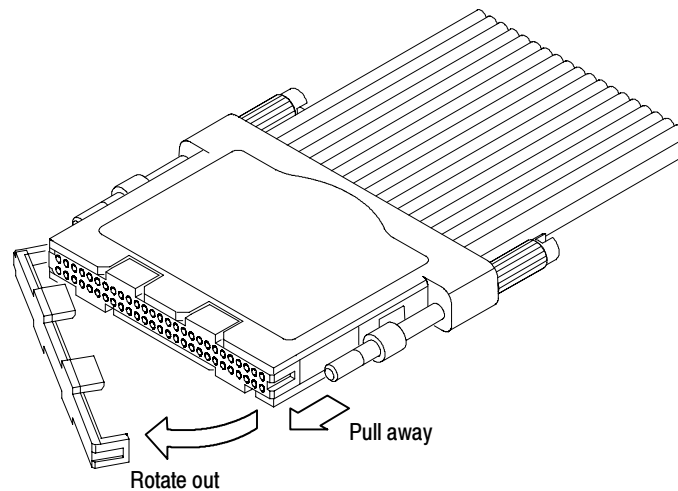

Figure 23: Replacing the cLGA clip
1. Gently pull one side of the clip away from the probe head, as shown in Figure 23, and then remove the entire clip.